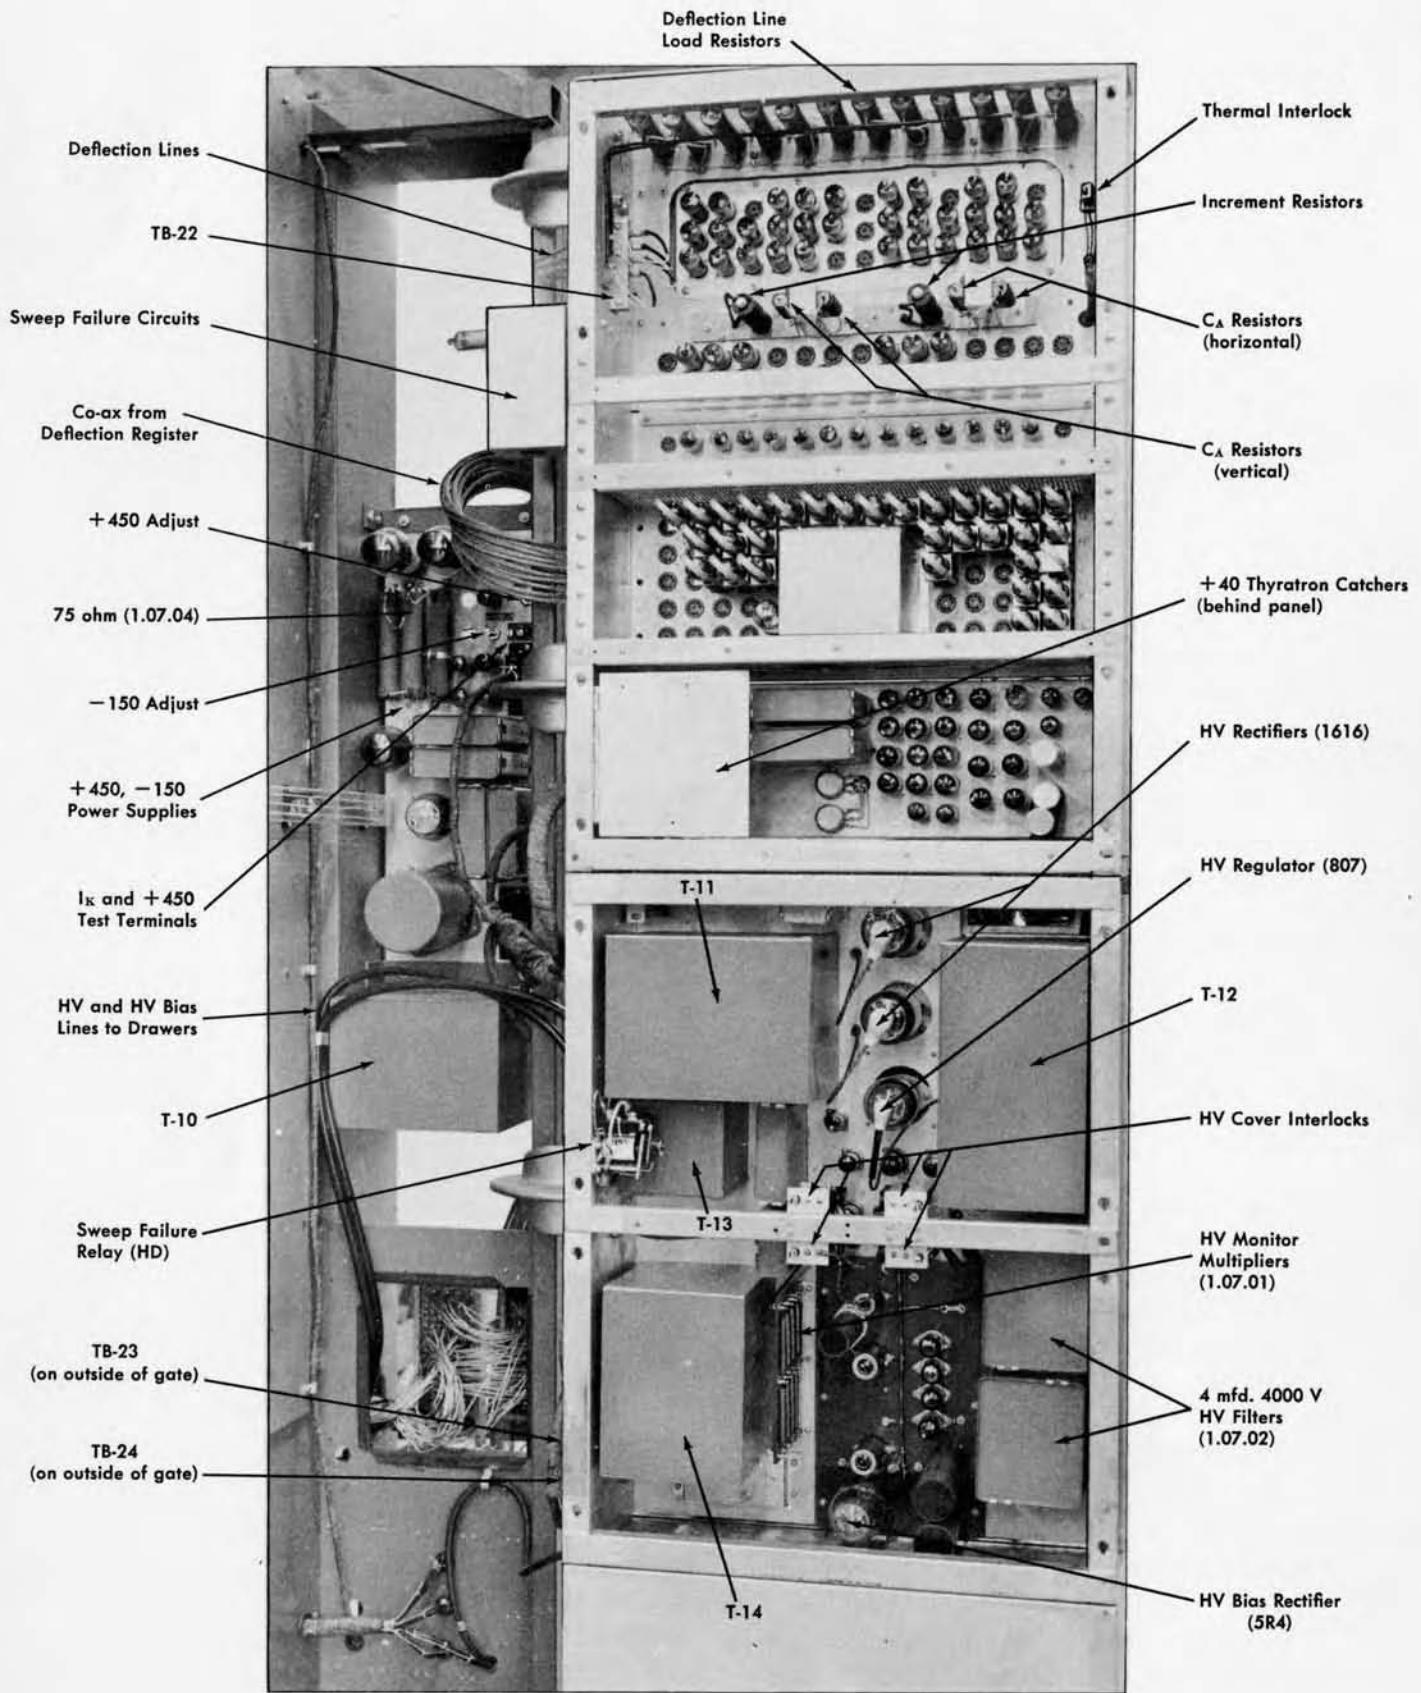

Figure 1 Front of ESM Gate
2. Adjust the 75 ohm Adjustable Resistor potentiometer in the +400 volt supply (Fig. 1) for 2.5 volts measured at the test terminals labeled  $I_k$  and +450 (Fig. 1.)
I. With machine in Regeneration using a DC voltmeter (1000 ohms/volt or better), measure the DC voltage on all 4 deflection lines (U, D, R, L) at TB22. (Fig. 1)
Consider a typical dot signal as viewed at the video amplifier sixth stage. (See Fig. 1.) As the "potential well" of the dot is filled by the collection of secondary electrons from surrounding areas in the cathode ray tube, the negative swing of the dot will go in a positive direction (refer to Curve A). As long as this swing stays negative, increasing the amplifier gain will have no effect on the changing of this dot to a dash. However, when the spill becomes sufficient to cause this swing to go positive, (refer to Curve B), it is possible to increase the amplifier gain to the point where the positive dot will go above the clipping level enough to appear as a dash signal.